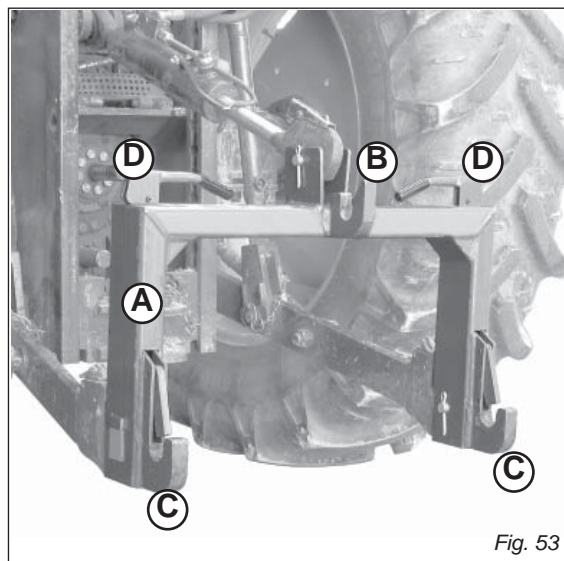
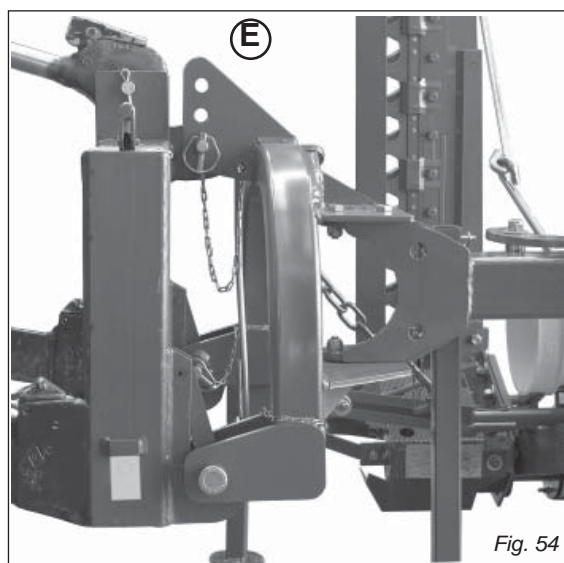

Fig. 53
Fig. 54
- 1) Install hitch Quick Coupler (A, Fig. 53) on the tractor (see tractor operator manual).
- 2) Parking the sickle bar on a flat and compact ground supported by the relative supports. Then slowly move the tractor back until the Quick Coupler (A) is in range with the point hitches (B and C, Fig. 53).
- 3) Raise the Quick Coupler (A, Fig. 53) and make sure that sickle bar hitch is in the right position (E, Fig. 54).
4. Raise the two Quick Coupler levers (D, Fig. 53) to unloch sickle bar.